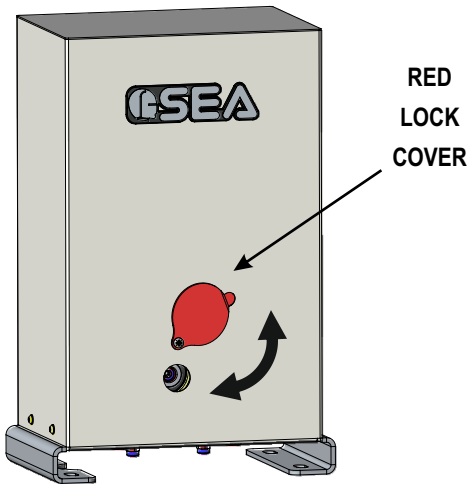

Fig. 24
- Open the red lock cover - Fig. 24
- Close the red lock cover - Fig. 24